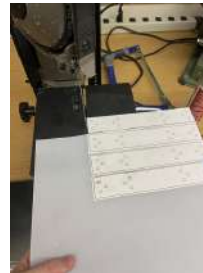

Figure 3:
- b. Using a vertical band saw, each piece was cut following the template as shown in figure 3